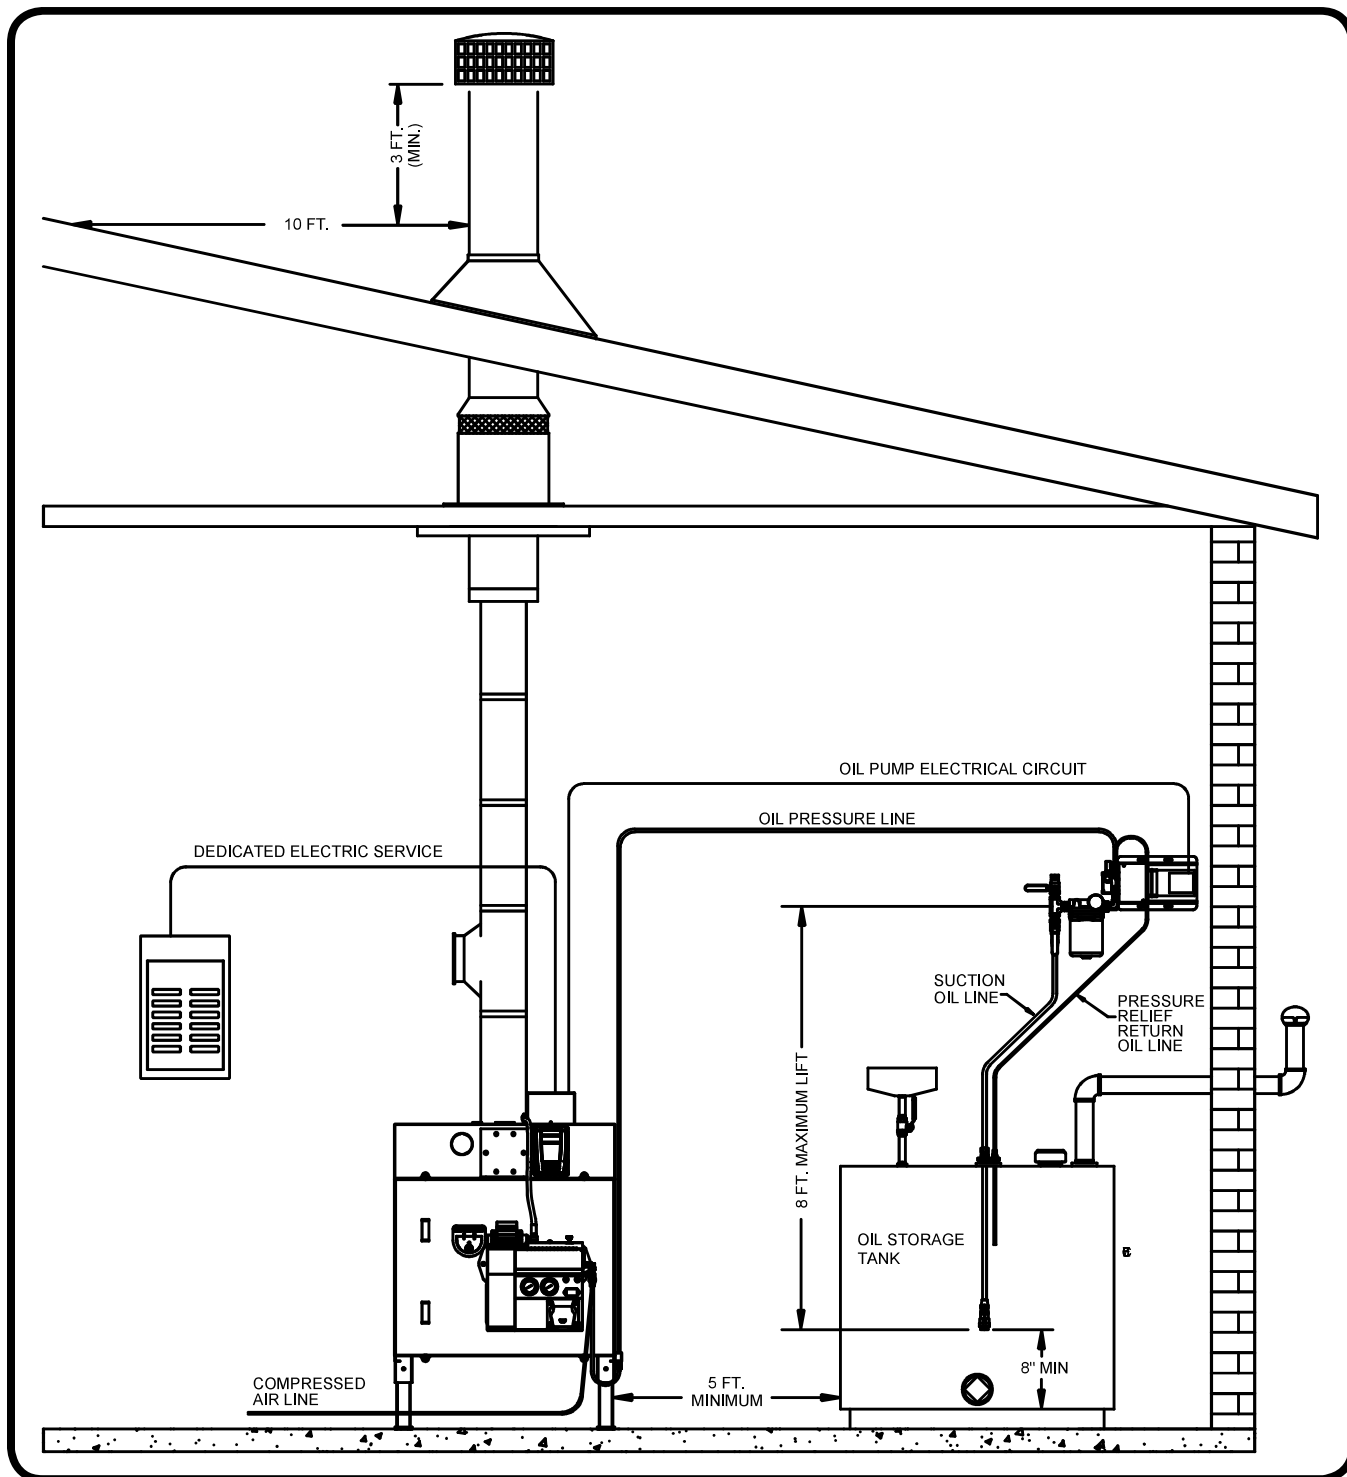

Figure 8: Typical Boiler Installation
Refer to Figure 8 for a typical boiler installation illustration.
- (1) Refer to Figure 8 for a typical installation.
- (2) Set the boiler in position.
- (3) Raise the four legs up if desired.
- (4) Fasten the four legs to the floor through the holes in the pads on the bottom of each leg.
- (5) Use a level to ensure the boiler is level front-to-back and side-to-side.